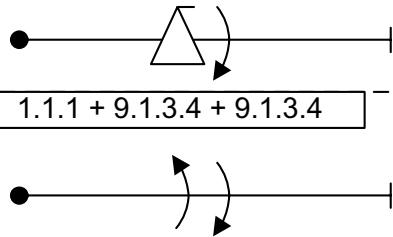

Fig. 52
- c) Opposite rolls may be either of the same or different type. In opposite rolls, the tips of the symbols are drawn on opposite sides of the line, indicating they are to be flown in opposite directions of rotation. The pilot may elect to fly the first roll in either direction, but the second roll must be opposite direction to the first. Opposite rolls, including those in rolling turns, should be flown as one continuous maneuver - the brief pause between opposite rotations should be minimal (Fig. 52). If the two rolls are of the same type, they must be flown in opposite direction if they are not linked.